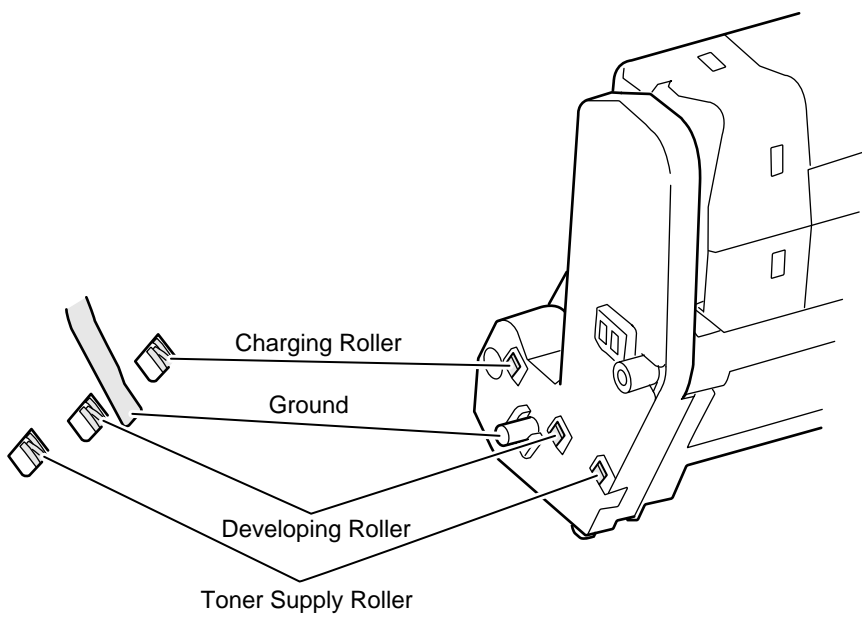

Figure 5.3
- NO Is the I/D terminal connected properly to the contact assembly? (See Fig. 5-3)
- ▼ NO Are the pins of the image drum units connected to the contact assy properly (see figure 5-3)?